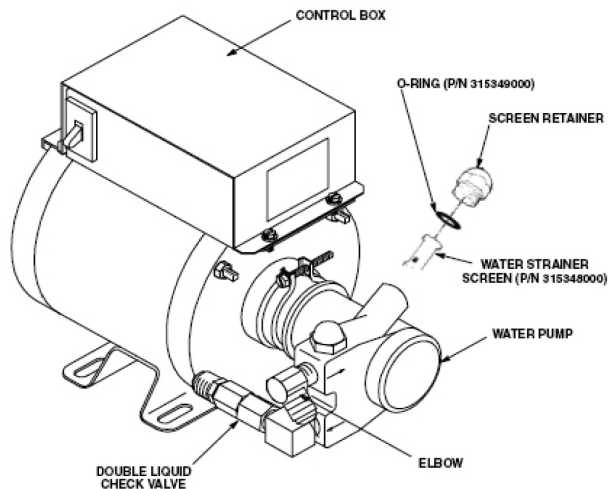

Figure 3. Water Strainer Screen and Double Liquid Check Valve
3. Disassemble each check valve as shown in Figure 3.